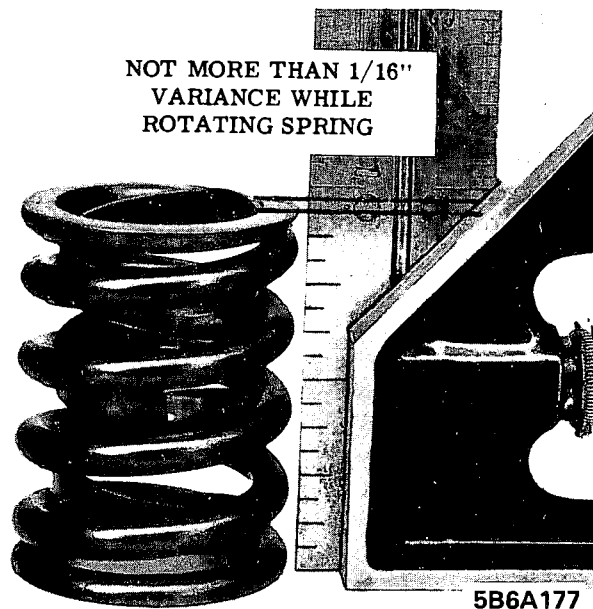

Figure 6A-176 - Checking Valve Spring
a. Occasionally this noise can be eliminated by rotating the valve spring and valve. Crank engine until noisy valve is off its seat. Rotate spring. This will also rotate valve. Repeat until valve becomes quiet. If correction is obtained, check for an off square valve spring. If spring is off square more than 1/16" in free position, replace spring. Figure 6A-176.